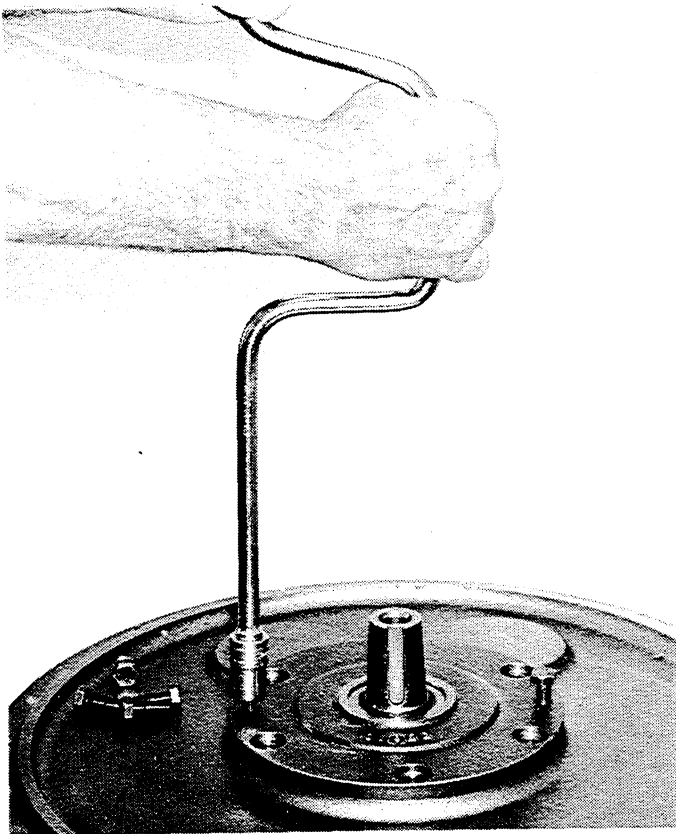

Figure 6-2. Using Pusher Screws to Remove Input Bearing Support.
9. Remove capscrews (Figure 12-2, 13) and use two of the capscrews as pushers in the threaded holes in bearing support (7) to remove the bearing support. See Figure 6-2.